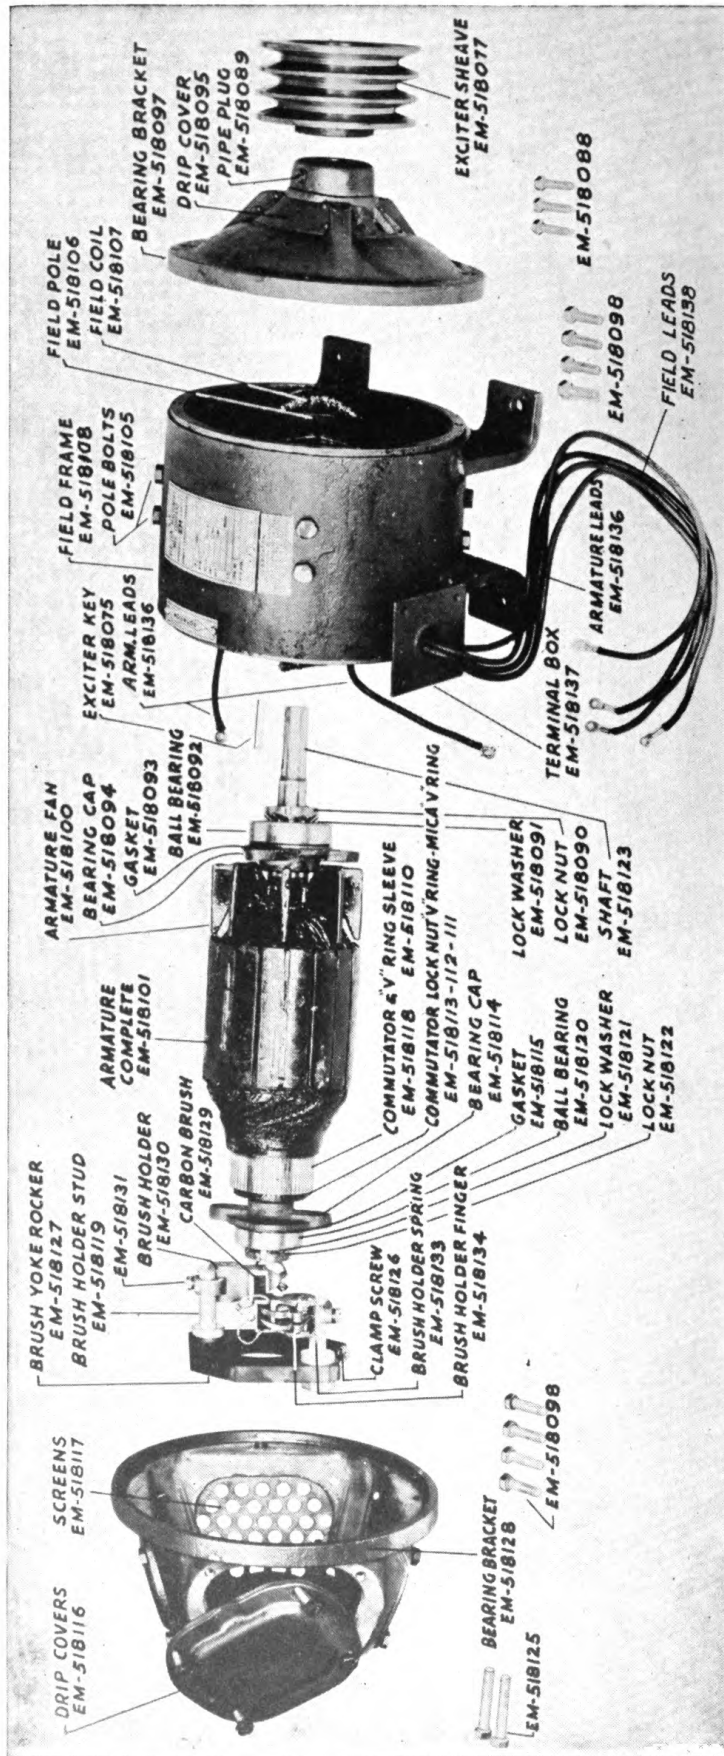

FIG. 19—Exciter—Exploded View
- Figure 19 Exciter—exploded view.